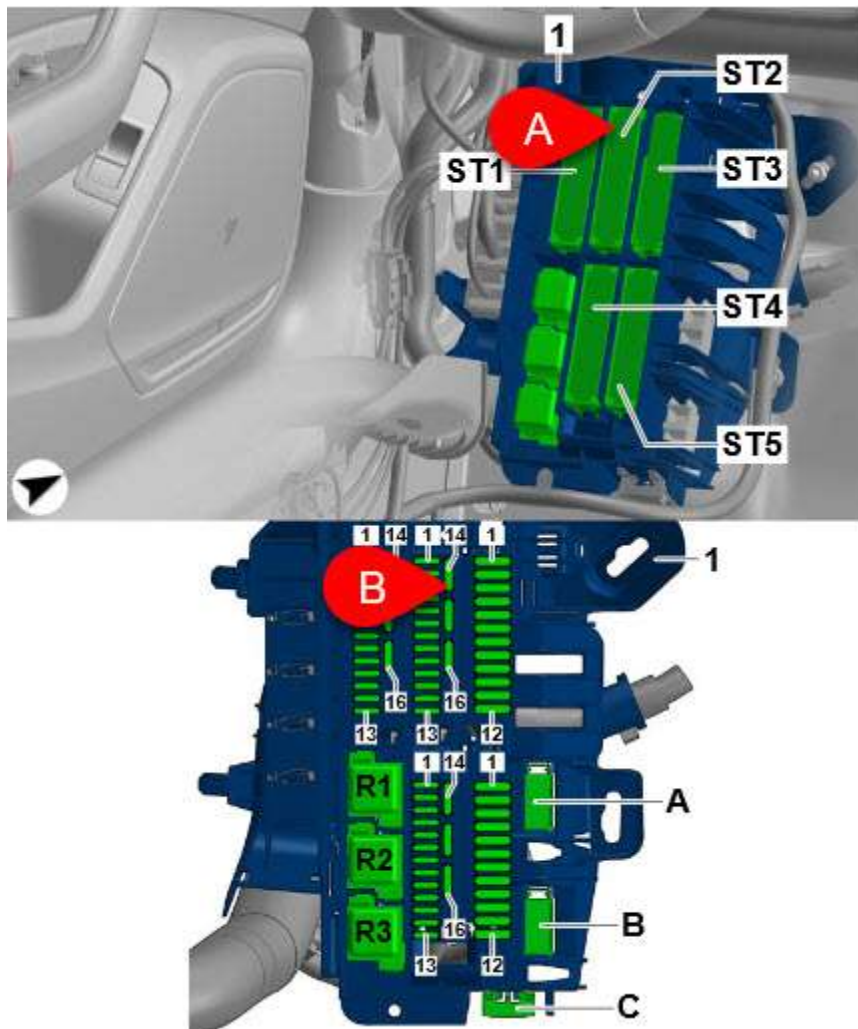

Figure 1. Fuse control panel.
- Fuse carrier 2 (ST2 – Front drivers side, floor) (Figure 1, A)
- Fuse panel B (SB – Red), fuse 14 (Figure 1, B)